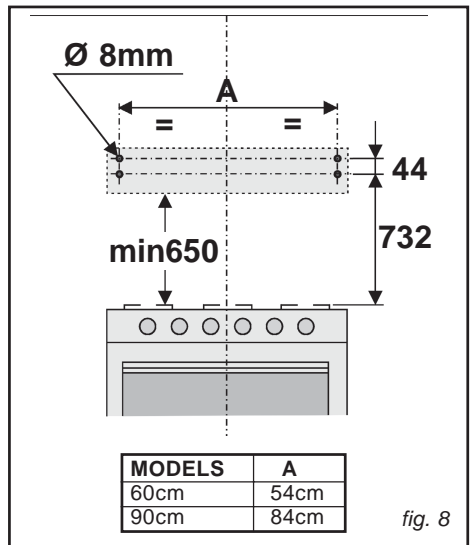

fig. 8
- Mark the 4 holes you need to drill in the wall, as per the measurements given in Fig. 8; drill the holes and insert the 4 dowels (supplied).